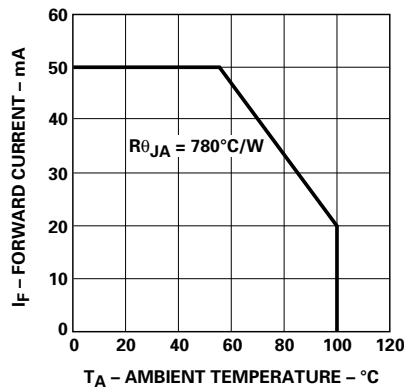

Figure 3. AllnGaP maximum forward current vs. ambient temperature.
1. Derate linearly as shown in Figure 3 for temperatures above 50 $^\circ\text{C}$ .